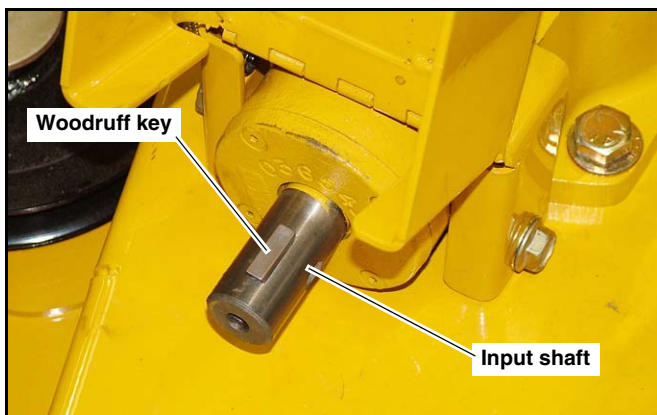

Fig. 3-2
1. Insert the woodruff key into the keyway on the gearbox's input shaft. Align the woodruff key with keyway on universal joint of PTO shaft. Coat the gearbox input shaft with NEVER-SEEZ compound. Slide universal joint onto gearbox shaft. Secure PTO shaft to gearbox shaft with 5/16" cap screw, flat washer, and 5/16" nut provided. Fig. 3-2 and 3-3